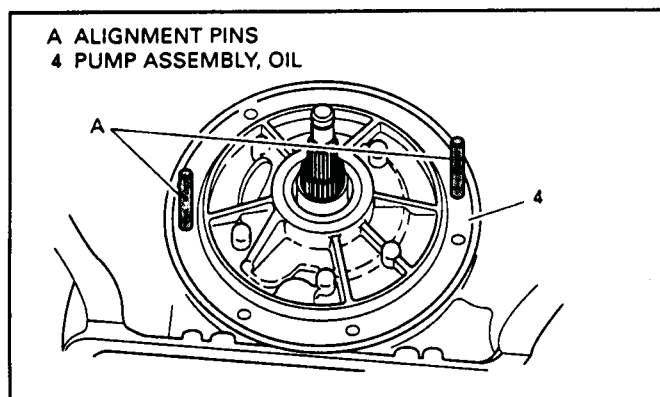

Figure 177
7. Install the complete oil pump assembly into the transmission case using the alignment dowels as shown in Figure 177.